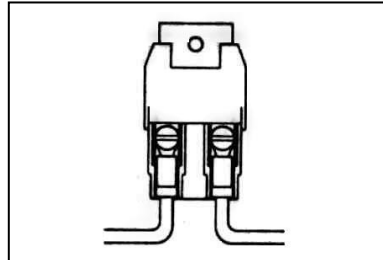

Figure 7-3 Maxi Fuse
7.4.1 With crimping tool, attach Maxi Fuse (**Figure 7-3**) onto end of ENGINE SECTION (single) 10 ga. wire #916 (red) AFTER having routed wire from the Fuse Panel to the Starter Solenoid. This serves as a fuse to protect the entire harness. DO NOT OMIT IT!
- 8.2.1** With crimping tool, attach the Maxi Fuse (**Figure 7-3**) onto end of ENGINE SECTION (single) 10 ga. wire #916 (red) AFTER having routed wire (with or without ammeter) from the Fuse Panel to the Starter Relay. This serves as a fuse to protect the entire harness. **DO NOT OMIT IT!**